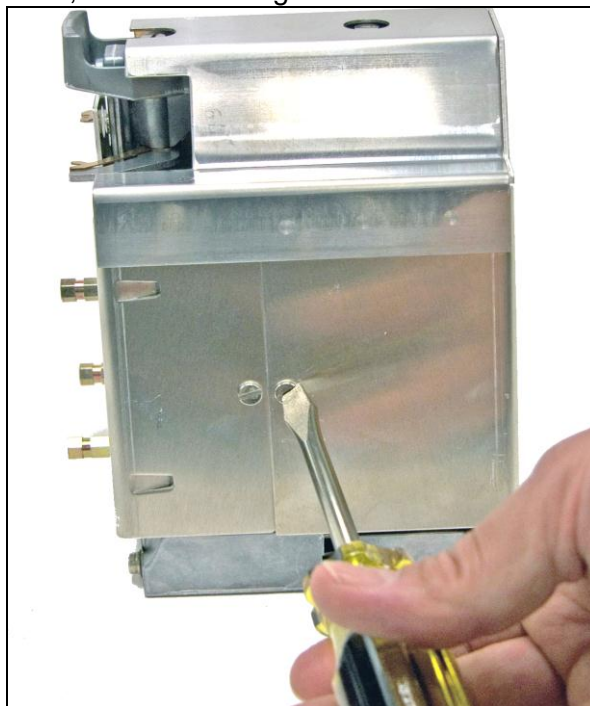

Figure 3-88. Tightening screws on top Load Cell Cover.
27. Tighten the screws, as shown in Figure 3-88.